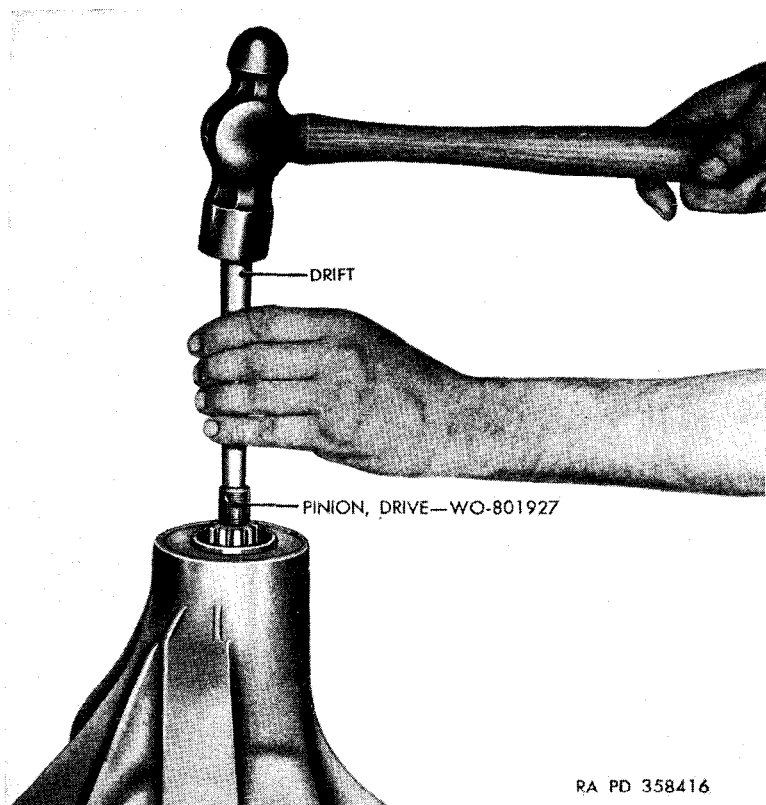

Figure 69. Removing drive pinion from axle housing.
Remove the $\frac{3}{4}$ -inch hex nut (MM) and $\frac{3}{4}$ -inch flat washer (LL) securing the propeller shaft to axle yoke (KK) to the drive pinion (T-2). Using puller 41-P-2956-4, remove the propeller shaft to axle yoke (fig. 68). Using a brass drift and hammer, drive the drive pinion out of the axle housing (fig. 69). Remove the small drive pinion bearing shim (DD) and drive pinion bearing spacer (CC) from the drive pinion, noting the thickness of bearing shims removed.